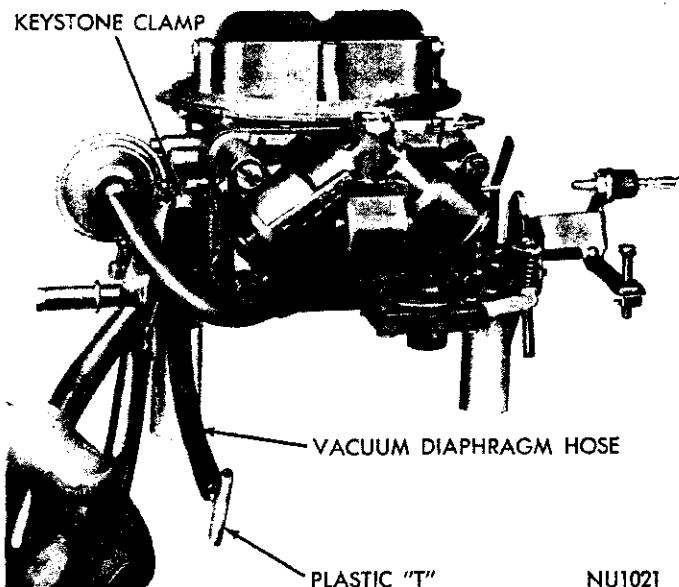

Fig. 22—Installing Vacuum Diaphragm Hose
(14) Install new keystone clamp over vacuum diaphragm hose (with tee for outboard carburetors), then slide hose over tube fitting (Fig. 22). Clamp with keystone pliers.